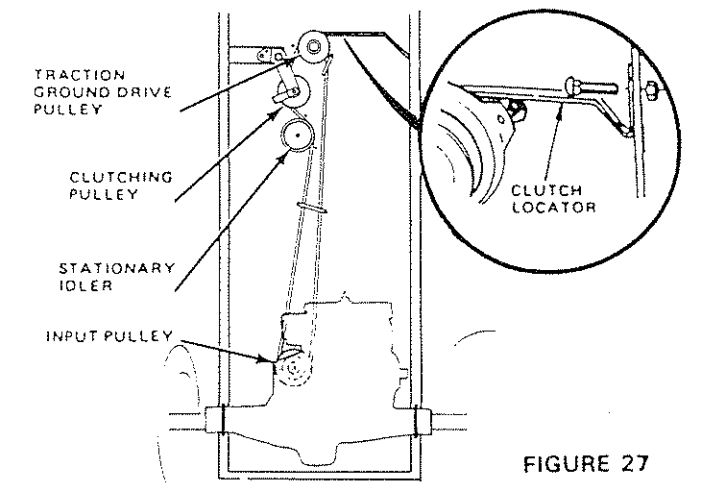

FIGURE 27
- Remove Belt from Stationary Idler (Fig. 27).
- Release Parking Brake. Pull Belt over top of Clutching Pulley (Fig. 27).
- Using a 9/16" wrench, remove Clutch Locator (Fig. 27 - Inset).